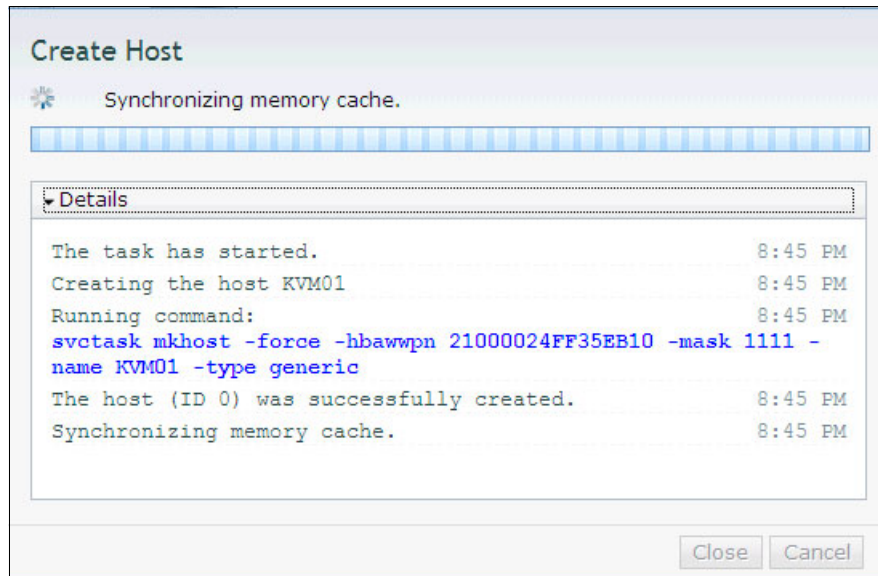

Figure 9-46 Host map creation processing
6. Click **Create Host** to start the host mapping creation as shown in Figure 9-46.